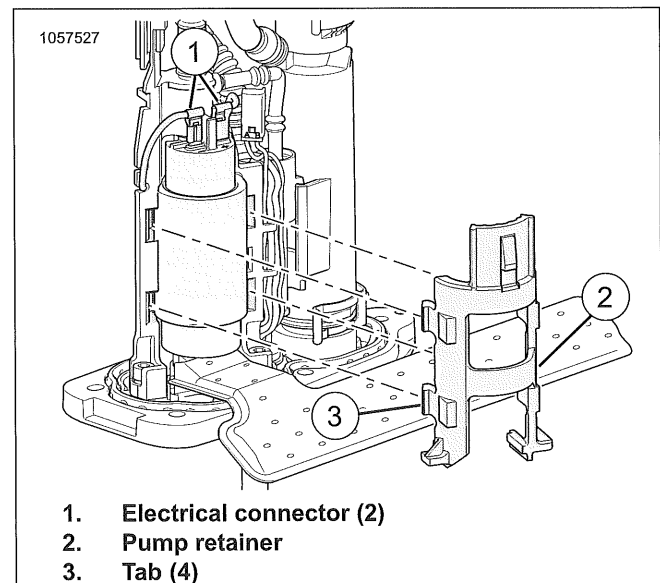
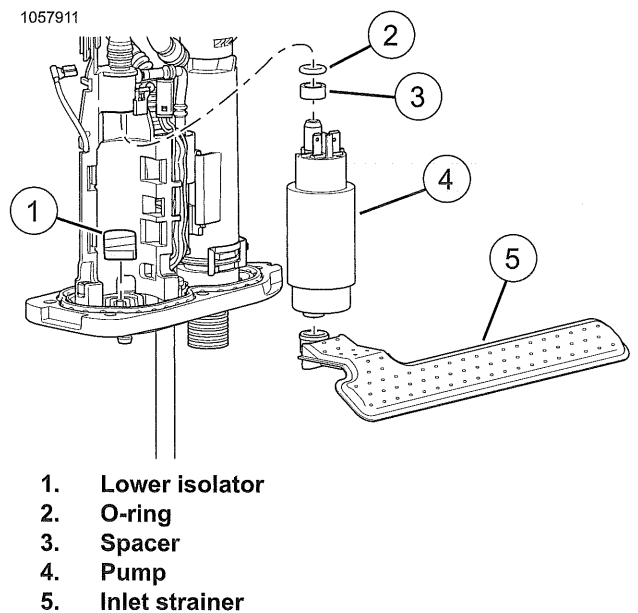

Figure 6-24. Fuel Pump
Figure 6-25. Fuel Pump and Inlet Strainer
2. See Figure 6-24. Remove pump retainer.
- a. Press tabs (3) to release pump retainer (2).
3. Disconnect electrical connectors (1).
4. See Figure 6-25. Remove pump (4).
5. Remove lower isolator (1).
6. If necessary remove and discard inlet strainer (5).
- spacer (3)
- O-ring (2)
1. See Figure 6-25. Remove pump (4).
2. Remove and discard inlet strainer (5).
1. See Figure 6-25 If necessary install **new** inlet strainer (5).
2. Install fuel pump spacer (3) and, O-ring (2).
3. Install lower isolator (1).
4. Install pump (4).
5. See Figure 6-24 Connect electrical connectors (1).
6. Install pump retainer (2).
1. See Figure 6-25 Install **new** inlet strainer (5) in proper orientation.
2. Install pump (4).